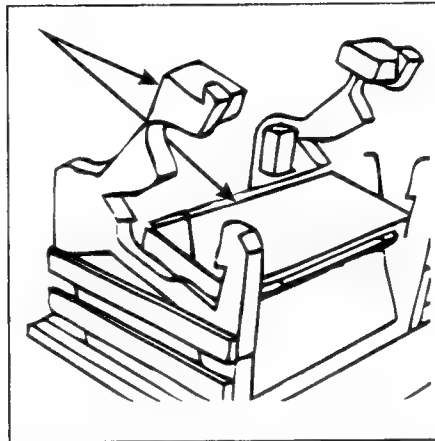

Figure 2-27. Remove Wire Form. Step e
- e. On the top of the sound shroud, pull the foam on either side of the wire form outward and carefully lift out the wire form (Figure 2-27).